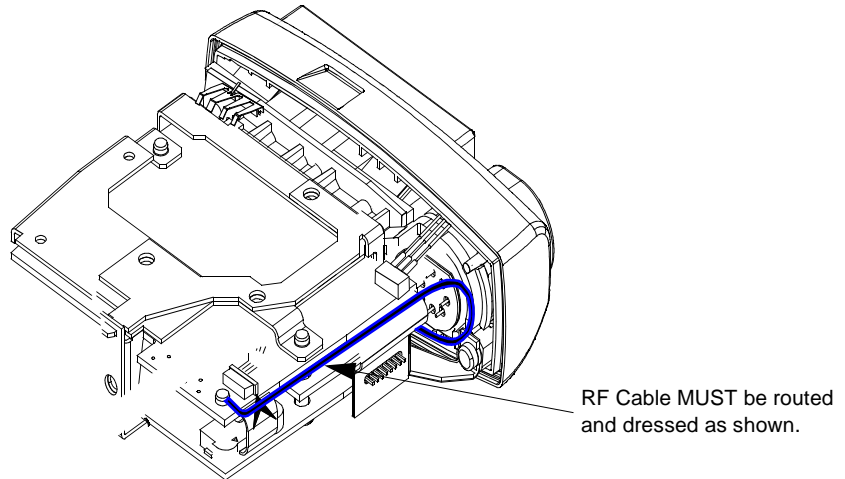

Figure 6-15 Route the RF Cable
Step 4. Route the RF Cable as shown in Figure 6-15.
Before assembling the Case Assembly, check the RF Cable again. It must be routed as shown in Figure 6-15 before securing the Case Assembly to the Front End.